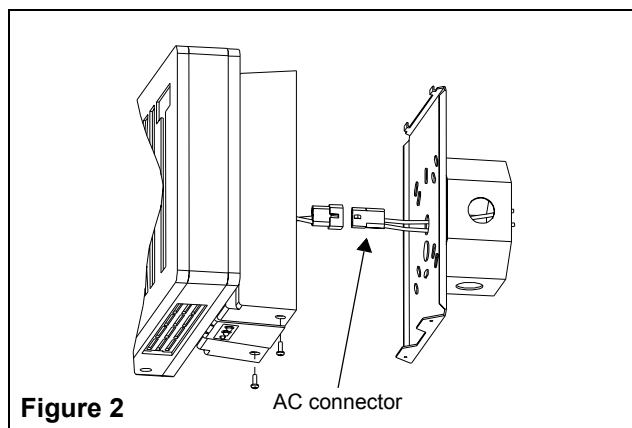
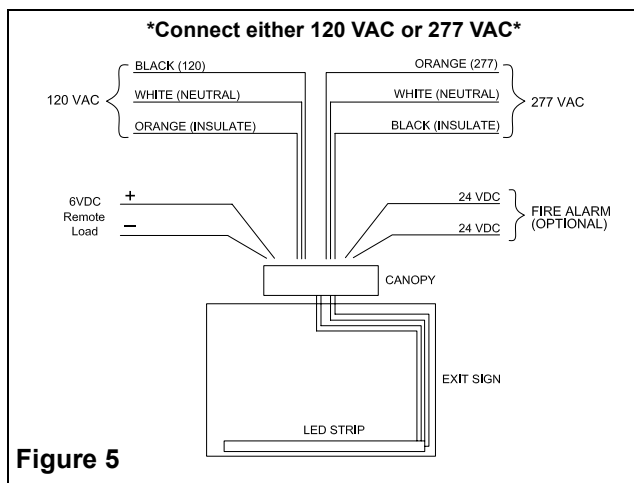

Figure 2
Figure 5
5. Disconnect male half of the AC connector (located in the canopy, see fig. 2) from AC wire harness and make the proper connections. Our unit accepts an input voltage of 120 VAC or 277 VAC (see fig. 5).